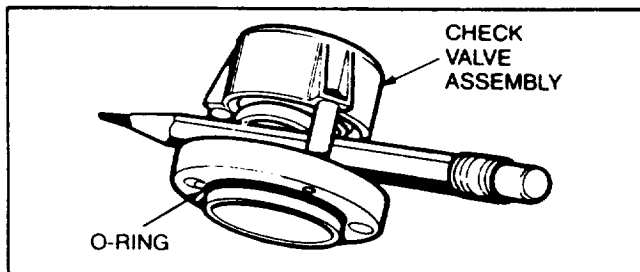

Figure 10. CLEANING 3/4" AND 1" CHECK VALVE
- Insert flat-sided wooden pencil between seat and disc to hold valve open (see Fig. 10).